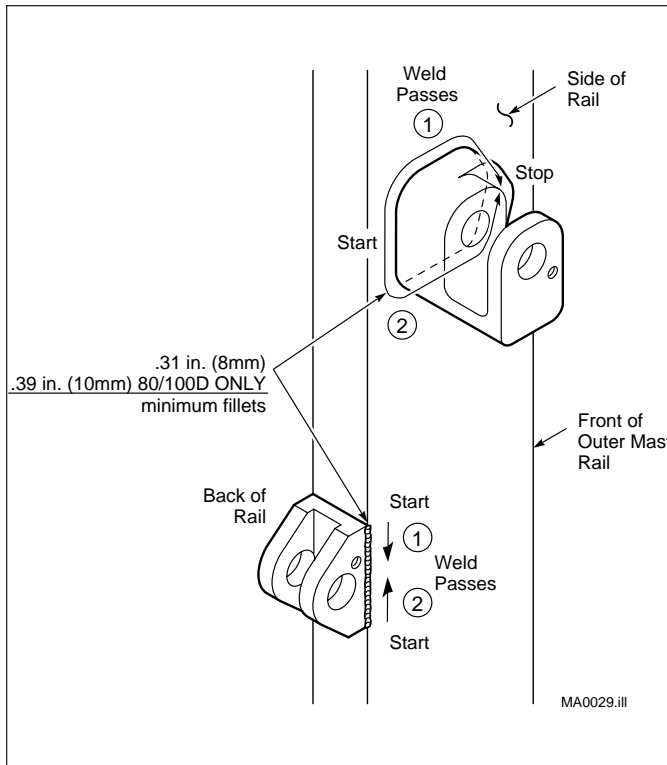

Figure 2. Tilt Cylinder Anchor Brackets.
4. Locate the tilt cylinder brackets on the mast rails. Clamp in place with "C" clamps. Protect the mast rail inner surfaces from weld splatter with fiberglass cloth. See Figure 2.